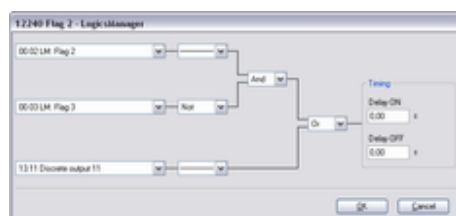

Fig. 213: LogicsManager function "Flag 2"
3. Configure the LogicsManager function "Flag 2" as shown in (Fig. 213).